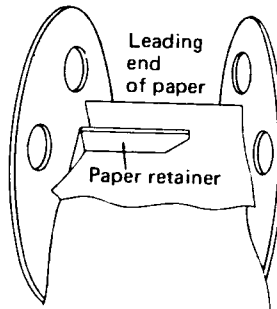

Fig. 5 Paper reel
7. Replace the empty reel and clip the leading end to the paper retainer (Fig. 5). Push the journal feed key.